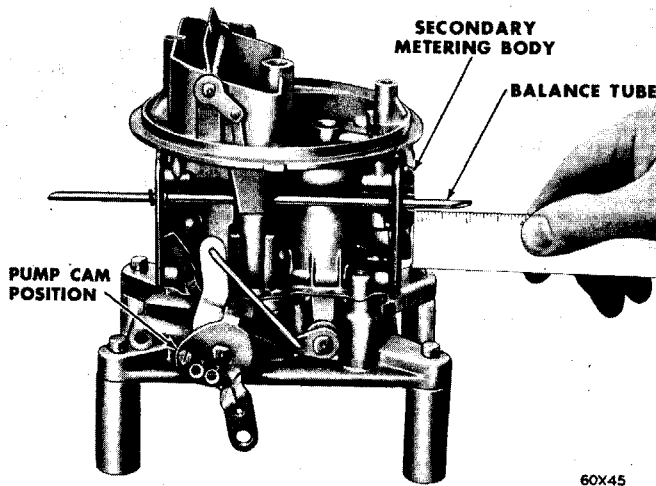
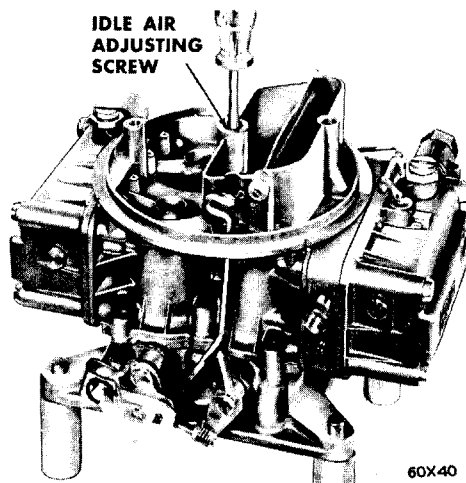

Fig. 14—Positioning the Balance Tube
Fig. 16—Adjusting the Idle Air Needle
- (1) Wrap two ribbon bushings in grooves nearest lever end of secondary throttle shaft and install shaft almost into position.
- (2) Wrap bushing in farthest groove and start bushing into housing.
- (3) Wrap narrow bushing in groove and push shaft into position.
- (4) Install throttle valves as marked before removal but do not tighten.
- (5) Install pump cam to primary throttle lever, using center hole, as shown in Figure 14.
- (6) Install primary throttle shaft and attach throttle valves as marked before removal, but do not tighten.
- (7) Install secondary throttle connector rod.
- (8) Center the four throttle valves in their bores by slowly tightening the screws while closing the throttle valves and opening them slightly. When tight, shafts must operate smoothly, without drag or sticking. Also the light, which is visible around the throttle valves when closed, should be uniform in the bores.
- (9) Locate fast idle cam spring on primary throttle shaft with hook in hole in body.
- (10) Install fast idle lever assembly on shaft.
(11) Bring outer end of spring up over lever.
(12) Locate secondary throttle shaft stop lever with hooked end on lever and install spring on shaft with straight end extending downward between the shaft and the boss on body. Install the lever.
(13) Install fast idle cam and choke lever on stub shaft.
- (5) Install primary metering body and gasket.
- (6) Install balance tube, "O" rings and washers. (Refer to Figure 14).
- (7) Install primary fuel bowl and gasket.
- (8) Install accelerator pump discharge needle.
- (9) Test the needle for seating. Pour clean gasoline into primary fuel bowl. Hold needle on seat with a small rod and push pump lever down. Fuel should not escape past needle.
- (10) Install pump discharge nozzle, gaskets and screw.
- (11) Test nozzle operation. Press pump lever down. The two streams of fuel should be equal and should strike the two venturi in the same spot.
- (12) Install choke valve (with curve down), centering the valve in the opening before final tightening.
- (13) Install secondary metering body plate, gasket, plate, body gasket and body.
- (14) Adjust balance tube to extend one inch beyond metering body. (Refer to Figure 14).
- (15) Place "O" rings on ends of fuel tube and install fuel tube in primary bowl. "O" ring will roll on tube, against the stop.
- (16) Install secondary fuel bowl and gasket.
- (17) Install bowl vent valve assembly on primary fuel bowl.
- (18) Install choke connector rod seal.
- (19) Install choke connector rod.
- (20) Adjust idle air adjusting screw, as shown in Figure 16. Seat the screw lightly, then back off one turn. (use screwdriver).